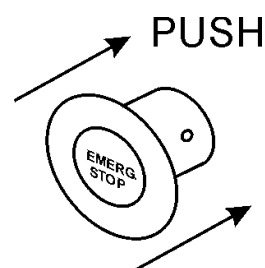

Figure 45. Emergency Stop Button (Engaged)
1. To stop the engine in the event of an emergency, **PUSH** the emergency stop button (Figure 45) inward. This button is located on the generator's engine panel, see page 34, Figure 11.